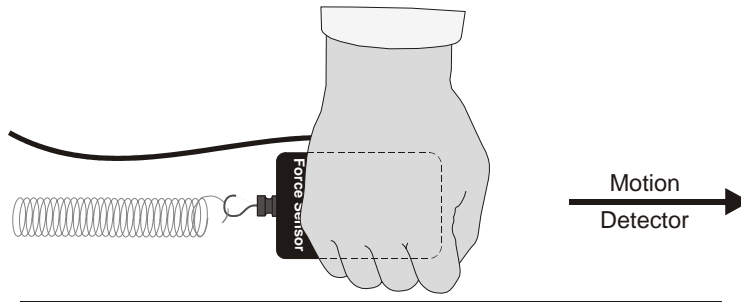

Figure 3
16. Using tape, mark the position of the leading edge of the Force Sensor on the table. The starting point is when the spring is in a relaxed state. Hold the end of the Force Sensor that is nearest the Motion Detector as shown in *Figure 3*. The Motion Detector will measure the distance to your hand, not the Force Sensor. With the rest of your arm out of the way of the Motion Detector beam, click  Zero. On the dialog box that appears, make sure that both sensors are highlighted, and click  OK. Logger Pro will now use a coordinate system which is positive *towards* the Motion Detector with the origin at the Force Sensor.